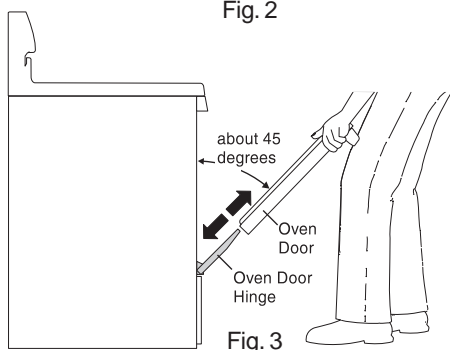

Fig. 3
5. Grasp oven door firmly on both sides and slide door up and off hinges at the same angle. (See Fig. 3)
2. Hold door at the sides near the top while resting the lower front of door on your knee. Insert the door channels at the bottom of door over the door hinges, (See Fig. 3).